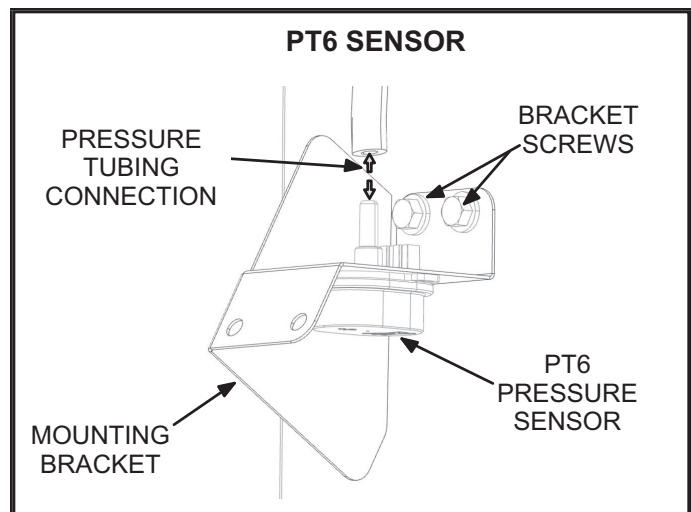

FIGURE 4
- 7 - If unit was equipped with a PT6 pressure sensor, disconnect the pressure tubing from the sensor. See FIGURE 4. Remove two screws and remove sensor/bracket assembly (note the orientation). Remove PT6 from existing blower housing and save to be installed on the replacement housing.
- 5 - If previously removed, re-install the sensor/bracket (note the orientation). Re-connect the pressure tubing to PT6 pressure sensor and avoid tight bends in the tubing. See FIGURE 4.